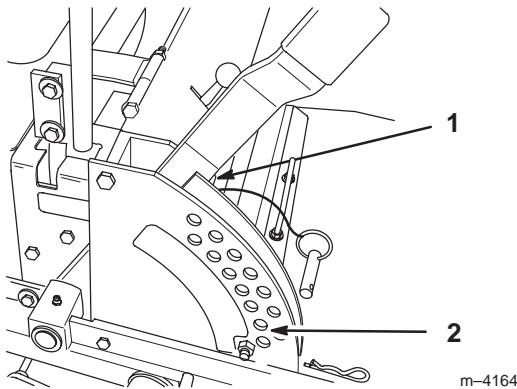

Figure 52
2. Check tire pressure of all four (4) tires. If needed, adjust to 13 psi (90 kPa)
4. Raise the deck to the transport position and take all force off of the two large deck lift springs by loosening nut in front of each spring (Fig. 52).
5. Place two 1-1/2" (38 mm) thick blocks under rear left and right lower edge of mower. Place one 2-1/4" (57 mm) block under front center lower edge of mower. Lower mower to the 2" (51 mm) height-of-cut position (Fig. 52).
1. Raise deck lift lever to the transport position, (Fig. 52).